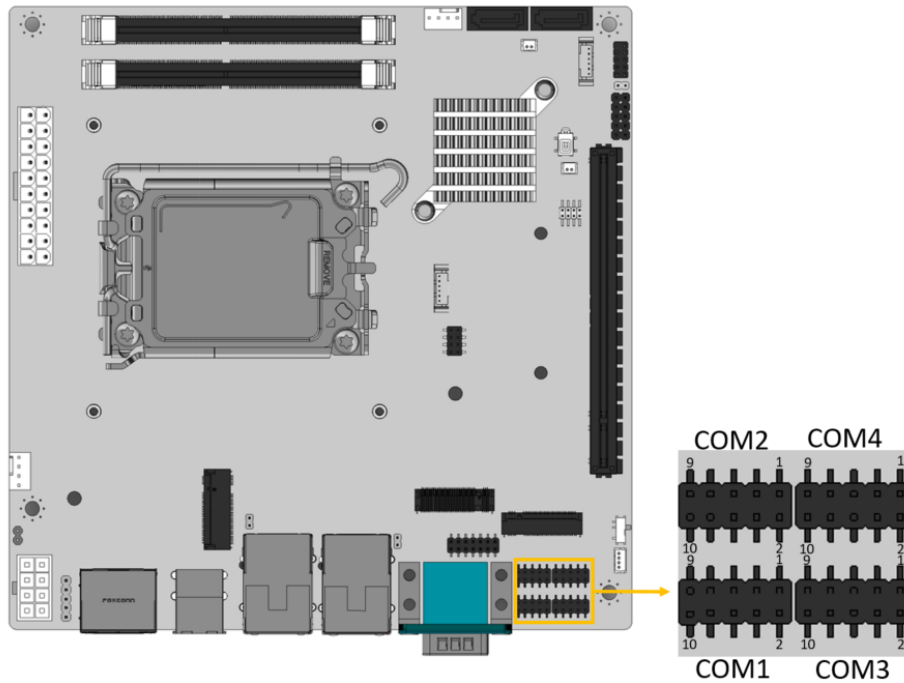

Figure 3-18: RS-232 Serial Port Connector Location
- CN Location:** See **Figure 3-18**